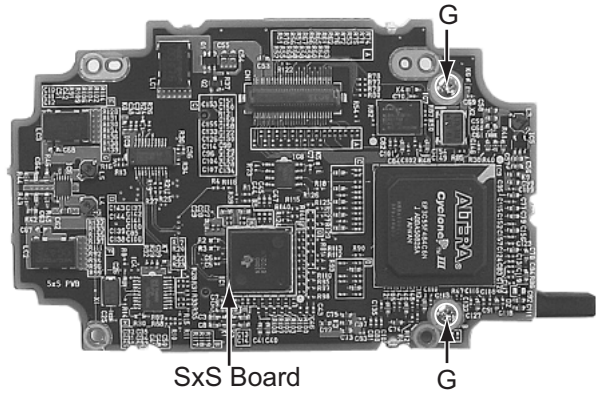
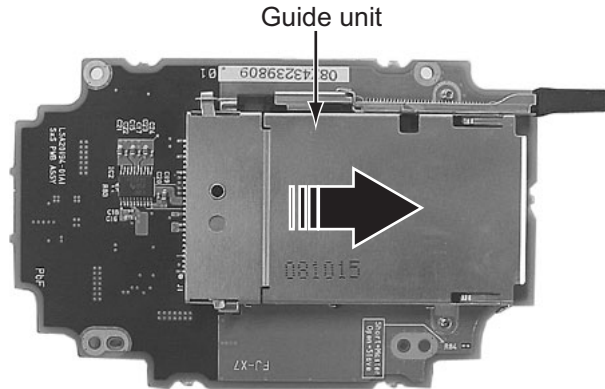
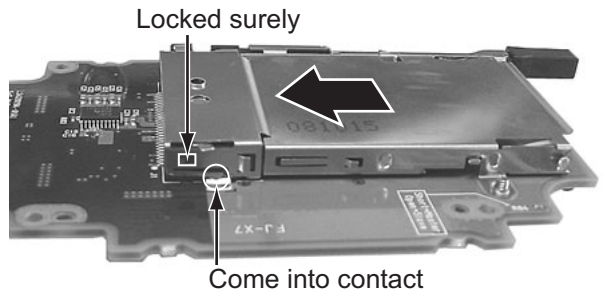

Fig.7
Fig.8
Fig.9
3.1.3 Removing the guide unit (See figure 7, figure 8, figure 9)